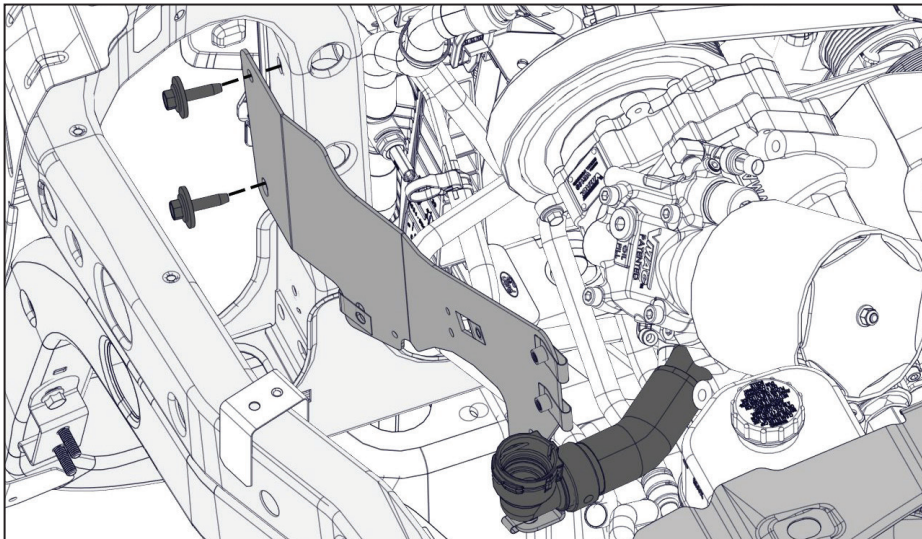

Figure 80 — Installing degas bottle bracket
- ☐ Using the OEM fasteners, install the supplied degas tank bracket; ensure the drain back hose is positioned to the rear of the bracket (Figure 80).